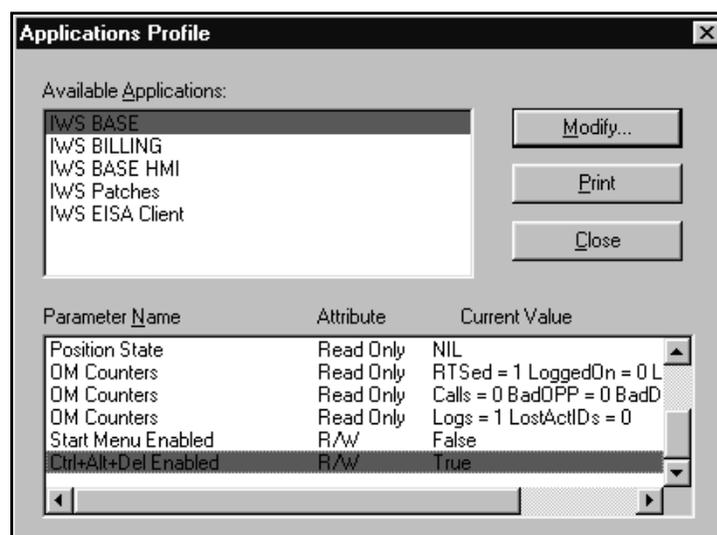

FIGURE 88. Ctrl+Alt+Esc Enabled
- a. Use the down arrow key to highlight the name IWS BASE in the Available Applications box. An example window is shown in Figure 88.
With Ctrl+Alt+Esc Enabled set to true as shown in Figure 88, the Ctrl+Alt+Del command at the target position can be used to open a Close Program window from the IWS logo window. This parameter needs to be set to false to disable it.